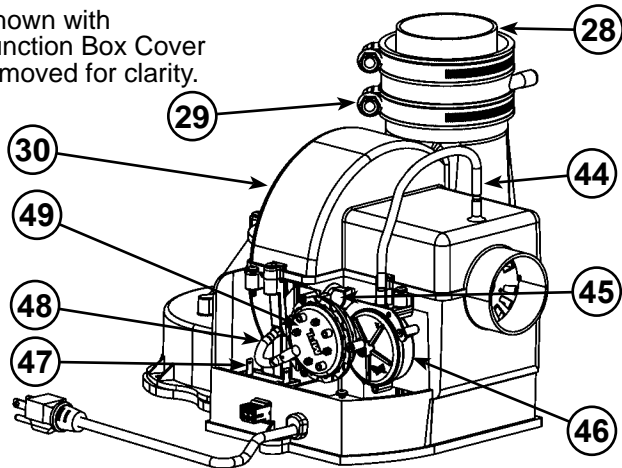

Figure 5.
| 8 T&P Valve | 25 Baffle Assembly | 44 Air Tubing (Intake) (see Figure 5) |
| 9 * Discharge Pipe | 26 Hot-Water Outlet Nipple/Anode | 45 Blower High Limit Switch (see Figure 5) |
| 10 **Combo Heating System Return Inlet (Optional) | 27 *Inlet Water Shut-off Valve | 46 Intake Air Pressure Switch (NC) (inside box) (see Figure 5) |
| 11 Gas Control Valve/Thermostat (Honeywell) | 28 ***Rubber Coupling (see Figure 5) | 47 Capacitor (see Figure 5) |
| 12 Gas Valve Electronic Control Module And Cover (Honeywell) | 29 Gear Clamp (see Figure 5) | 48 Air Tubing (Exhaust) (see Figure 5) |
| 13 Drain Valve | 30 ***Blower with Power Cord (see Figure 5) | 49 Exhaust Air Pressure Switch (NO) (inside box) (see Figure 5) |
This device is located on the blower (see Figure 5, item 45) and limits the maximum temperature of the blower. If the blower temperature rises above the temperature setting, the switch opens causing the heater to shut down.
The blower/heater is equipped with two air pressure switches located in the junction box (see Figure 5, item 46 and item 49). These devices are connected in series and monitor the air pressure produced by the blower. In the event that the exhaust venting becomes blocked or sufficiently restricted, the normally open (NO) air pressure switch will shut down the heater. In the event that the intake pipe becomes sufficiently blocked or restricted, the normally closed (NC) air pressure switch will shut down the heater.